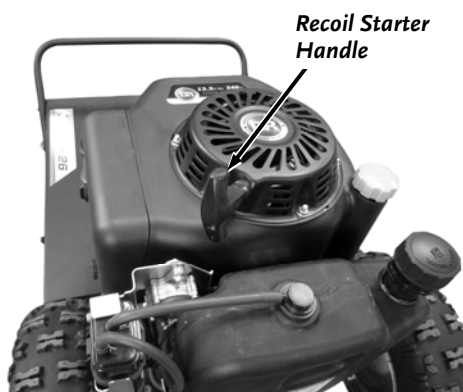

Figure 14
3. Grasp the recoil starter handle and slowly pull until you feel resistance (**Figure 14**). Let the cord retract a little bit, then pull the cord rapidly to start the engine. One or two pulls usually starts the engine.